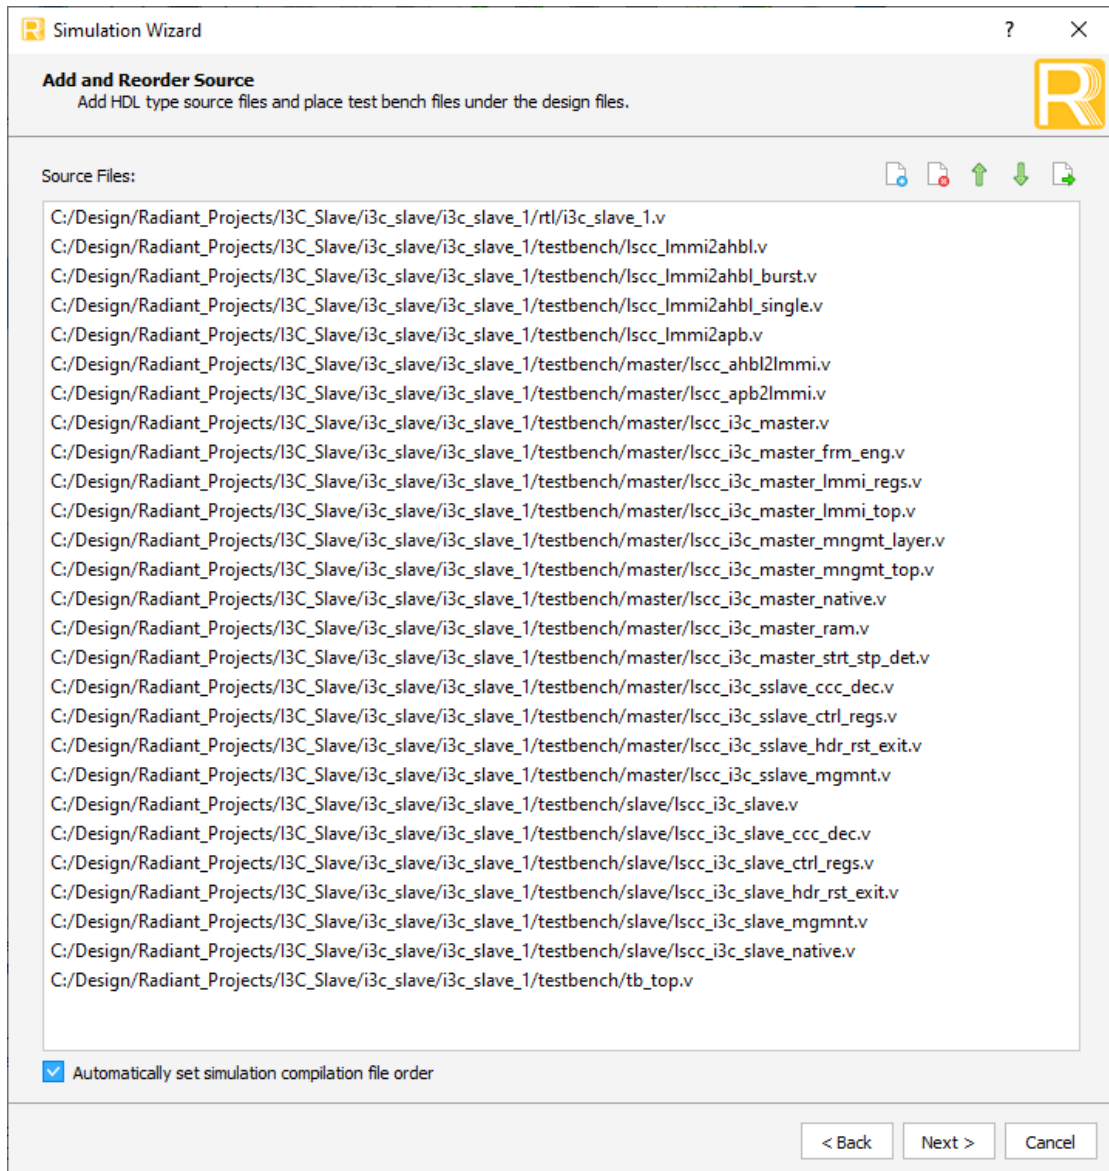

Figure 3.4. Adding and Reordering Source
2. Double-click **Next** to open the Add and Reorder Source window as shown in Figure 3.4.